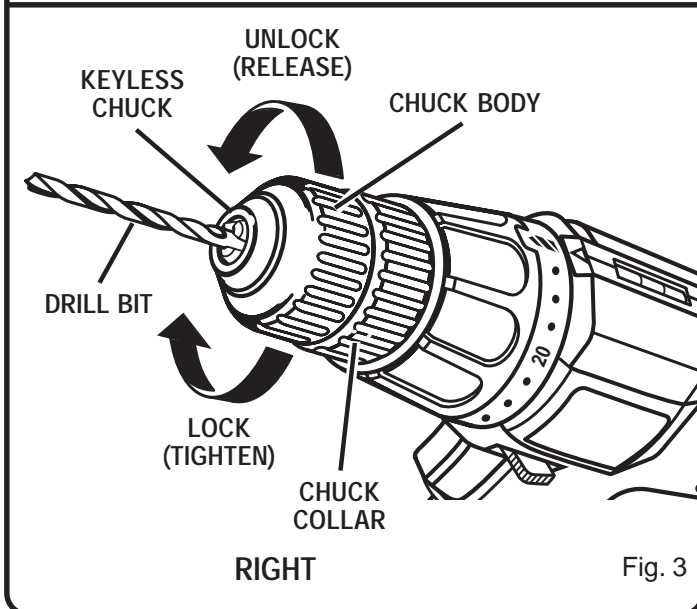

Fig. 3
See Figure 3.
See Figures 3 and 4.
- Insert drill bit straight into chuck the full length of the jaws. See Figure 3.